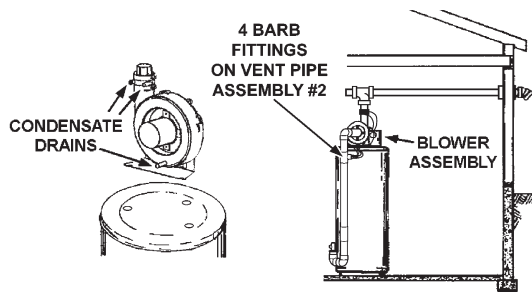

FIGURE 17.
3. The blower discharge adapter is made to accept only straight sections of 2" pipe. To start, a minimum of 2 inches (5.1 cm) of 2" pipe must be attached to the blower discharge, see Figure 17.
4. There will be some installations where condensate will be formed in the horizontal runs of the vent system. This condensate will run into the condensate boot attached to the blower and out the fitting. The water heater is shipped with condensate hose that attaches to the fitting on the condensate boot. No other Tee or fitting is required. See Figures 17, 20 and 21.
This water heater is a condensing unit and requires a drain to be located in close proximity to allow condensate to drain safely. One hose from blower housing and two flexible hoses from blower outlet adaptor run to barb fittings on vent pipe assembly #2. Hose is clamped by rubber clips and flexible hoses by a clamp on jacket top cover. See Figure 17. Condensate drains from the unit at the exhaust tee located at the bottom of the unit, see figure 16. Condensate from this water heater is mildly acidic. Please note that some local codes require that condensate is treated by using a pH neutralizing filter prior to disposal.
Condensate is likely to form in the venting system attached to this water heater. The vent pipe should be sloped downward away from the blower assembly (not less than 1/8" (3.2 mm) nor greater than 1/2" (12.7 mm) per foot (30 cm) maximum). If the vent piping is vented level or sloped upwards away from the blower assembly, then adequate means for draining and disposing of the condensate needs to be made by the installer. Two 3/8" condensate hoses should be connected to the built in drain ports of blower outlet adaptor. The unused barb fitting on vent pipe assembly #2 should be plugged with one of the break-away plugs. See Figure 17.
3. Condensate drains from three locations on blower assembly. See Figure 17. One flexible hose runs from bottom of blower housing; two run from the ports of rubber connector at the outlet of blower. All these three condensate hoses are connected to barb fittings at vent pipe assembly #2. The hose from bottom of blower housing is clamped by two clamps and the two hoses from rubber connector are harnessed by another clamp. Make sure there is no kink or twist.